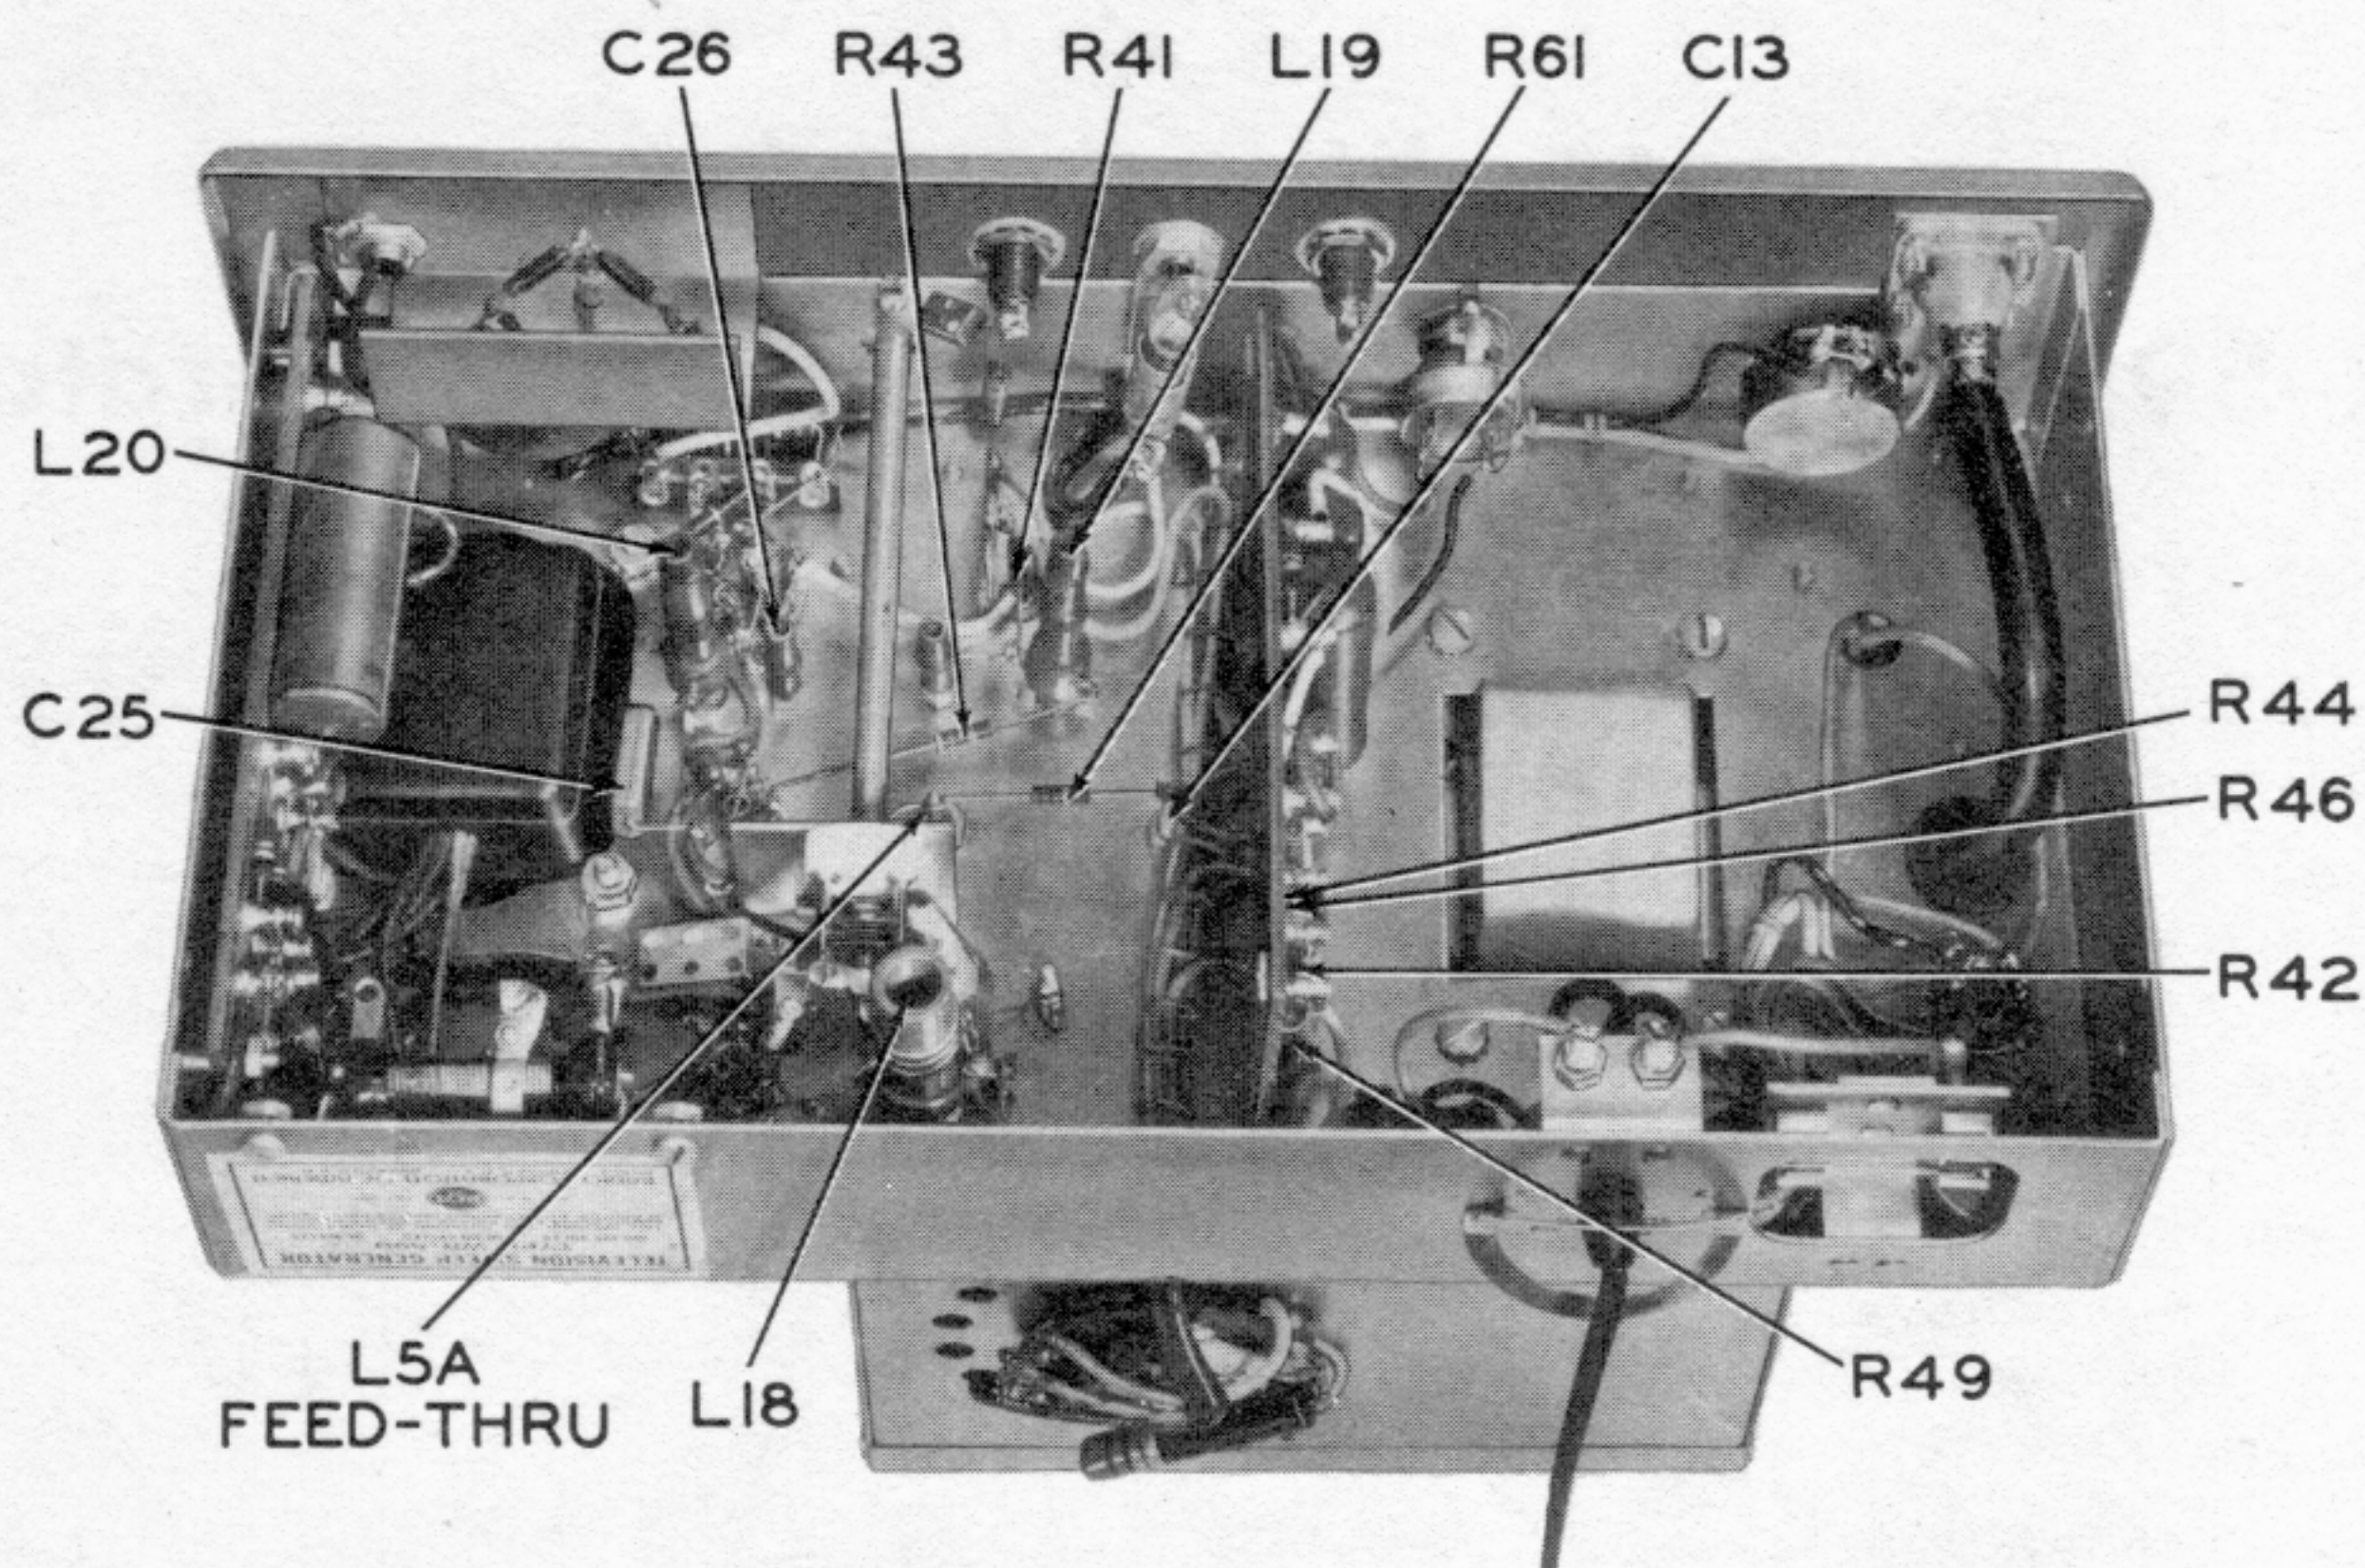

Fig. 2 - Bottom View of WR-59C
6. Remove and discard L20, R42, R43, R44, and R46 (See Figures 2 and 3).
7. Remove L19, C25, C26, R41, and R61 (See Figure 2). Do not discard. These parts will be used in the modification.